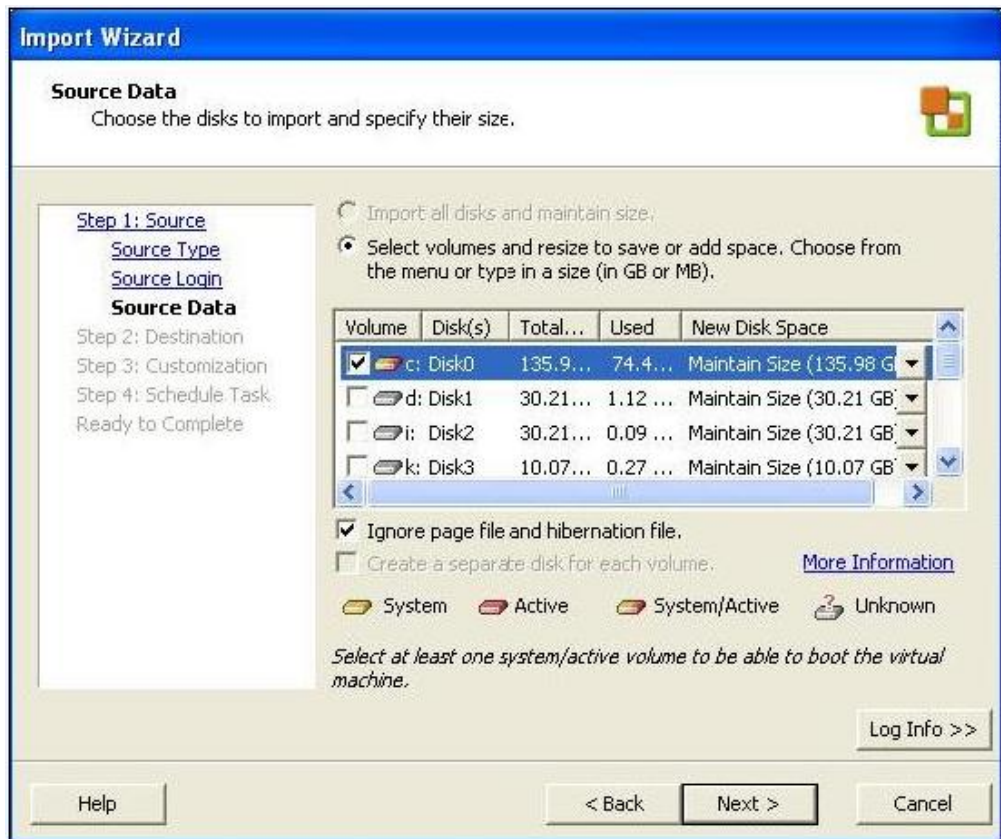

Figure 9. Physical host volumes to be migrated
- Physical host volumes being migrated (see Figure 9)
Figure 9 shows that the database volumes are not selected because this conversion involves migrating only the server boot device. The location of the data volumes does not change.